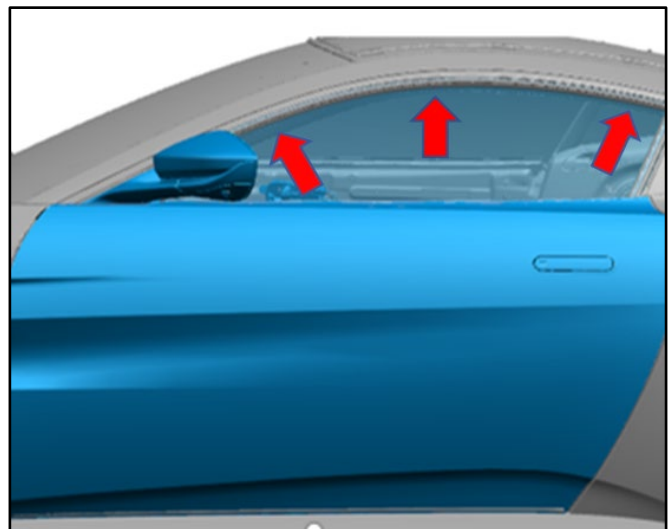

Figure 9
19. Do a check that there is sufficient clearance between the door glass and the cantrail finisher (refer to Figure 9).